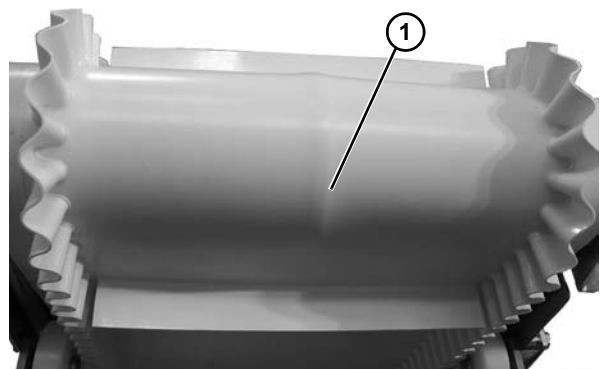

Figure 54
For v-guide belts, track until the bulge in the conveyor belt (**Figure 54, item 1**) lies flat.